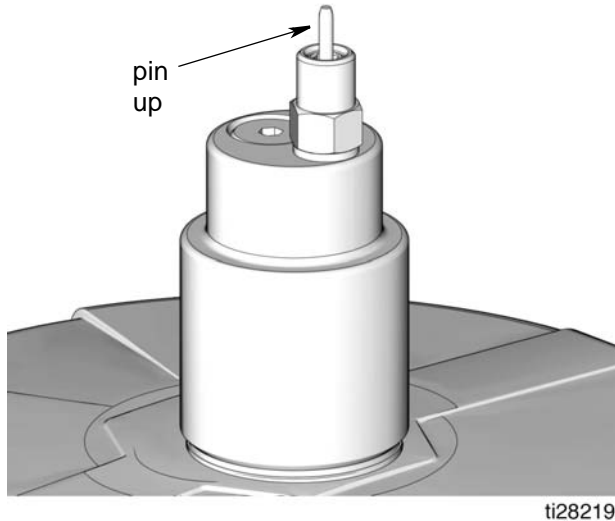

FIG. 21
3. Remove yellow Dust Cover from Fill Coupler (M).
4. Connect Supply Hose (J) between the Remote Filling Station Pump (F) and Fill Coupler port marked with an "I".
5. Start Remote Filling Station Pump (F).
6. When the G3 Reservoir (D) is filled:
- the Remote Filling Station Pump (F) stalls (dead-heads),
- the Auto-Fill Shut Off (B) pin pops up as shown in FIG. 21,
- the Pressure Gauge (R) rises to the fill pump's set pressure.